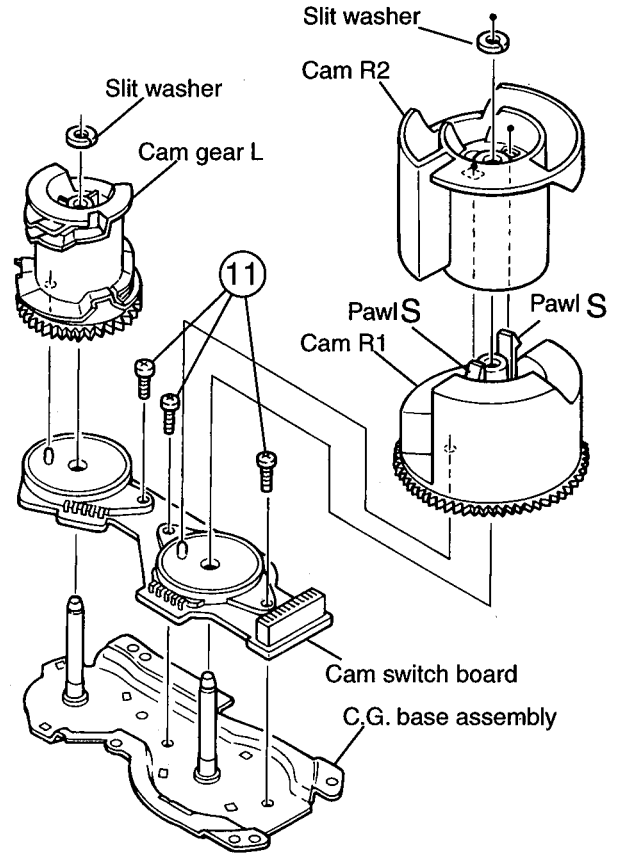

Fig.23
■ Removing the cams R1/R2 assembly and cam gear L(See Fig.23)
■ Removing the C.G. base assembly (See Fig.23 and 24)